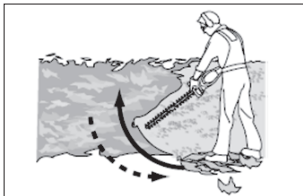

Fig. 1
2. Always hold the product firmly with both hands on front handle (1) and rear handle (4). Never operate this product using only one hand.
4. First cut both sides from the bottom cutting upwards to the top. This will prevent any of the cuttings falling into the path of the area still to be cut (Fig. 1).